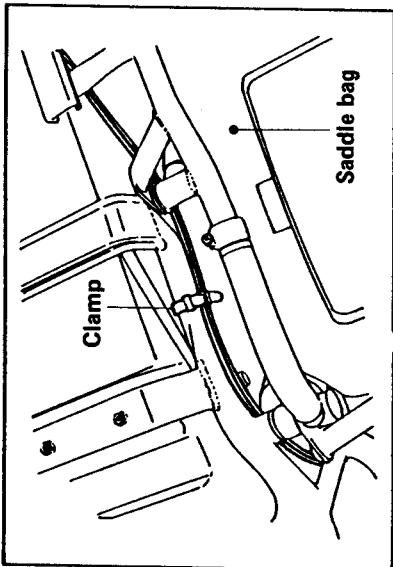

Fig. 18-3
- 2) As shown in Fig. 18-3, run the antenna wires through the inside of the frame and fasten at the arrow-marked point with the existing clamp.